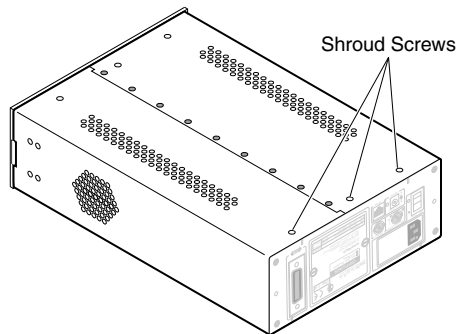

Figure 3-6 Bottom Rear Shroud Screws
- 4 Turn the Counter upside-down, and remove the three 4-40 x 3/16-inch countersunk shroud screws on the bottom of the Counter near the back edge of the shroud (see Figure 3-6).